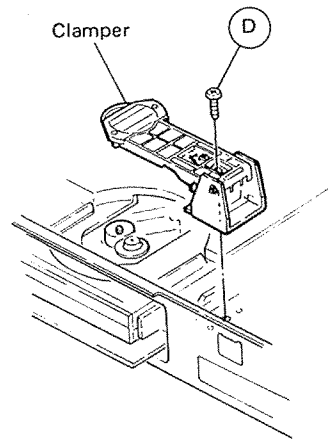

Fig. 2
- (1) Remove the TOP COVER.
- (2) Remove screw (D) and detach the CLAMPER. (Fig. 2)